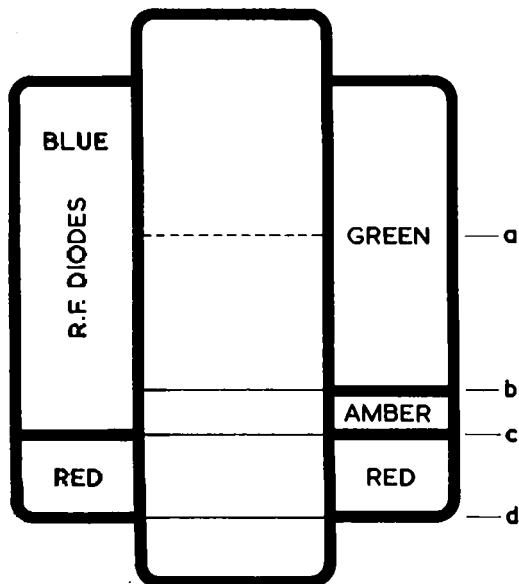

FIG. 2—INDICATOR SCALE
- (vi) Set the instrument to the mains supply by turning the mains fine adjustment switch until the spot on the indicator is as nearly as possible on the dotted line *a* (Fig. 2).
- (a) With the selector switch in position 1, the spot should come to rest on the reject upper limit line *c* (Fig. 2); and